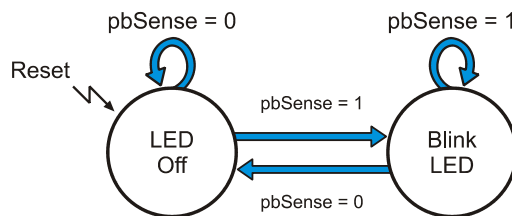

Figure 4-9
Figure 4-9 shows an example of a simple state diagram. Each circle signifies a state that the SumoBot can operate in. Both states are labeled, LED Off and Blink LED. Some of the arrows curve around and point back to the same state while other arrows point to the other state. These arrows represent state transitions. Each state transition arrow is labeled with a condition, like `pbSense = 0` or `pbSense = 1`. The reset condition is the arrow with the jagged shaft labeled Reset, and it indicates that this system will start in the LED Off state.
State diagrams can be visual aids for describing the different states in certain programs along with the conditions the programs use to transition from one state to the next. For example, `PushButtonLed.bs2` can be thought of as the instructions to make the SumoBot a state machine implementation of Figure 4-9.
- √ Monitor the LED and Debug Terminal as you press and hold and then release the pushbutton on the SumoBot's breadboard. Do you agree that this program really does implement the state machine diagram in Figure 4-9? Is it the *only* way the figure can be implemented?
Here is the Main Routine from `FrontIrNavigation.bs2` (See Activity #2 in this chapter). If you rigidly adhered to the format from Figure 4-9 to make a state diagram for this code block, it would be pretty complicated. Certainly complicated enough to make it useless as a visual aid for designing more complex navigation routines.